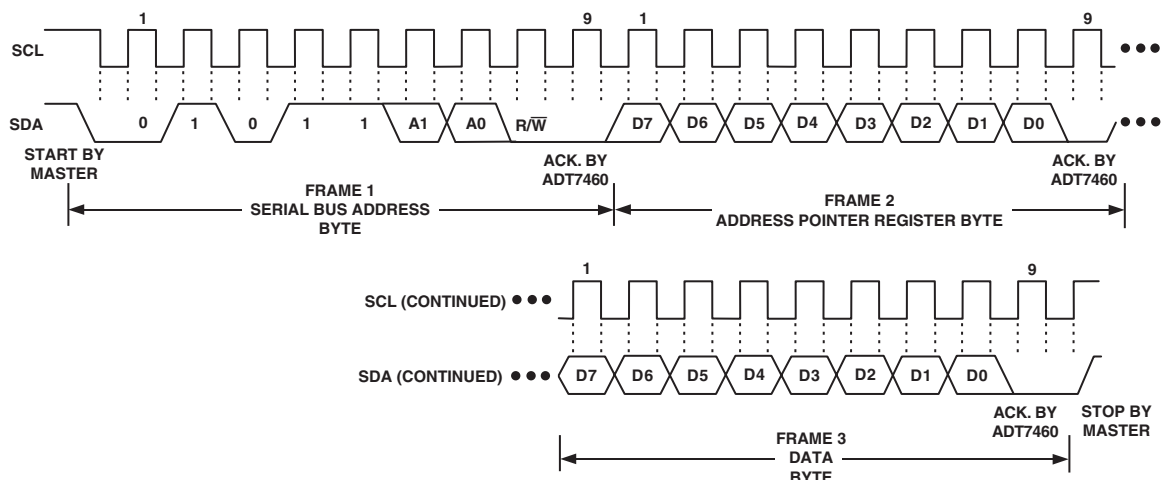

Figure 7. Writing a Register Address to the Address Pointer Register, Then Writing Data to the Selected Register
This is illustrated in Figure 7. The device address is sent over the bus followed by R/\overline{W} being set to 0. This is followed by two data bytes. The first data byte is the address of the internal data register to be written to, which is stored in the address pointer register. The second data byte is the data to be written to the internal data register.
2. In Figures 7 to 9, the serial bus address is shown as the default value 01011(A1)(A0), where A1 and A0 are set by the address select mode function previously defined.